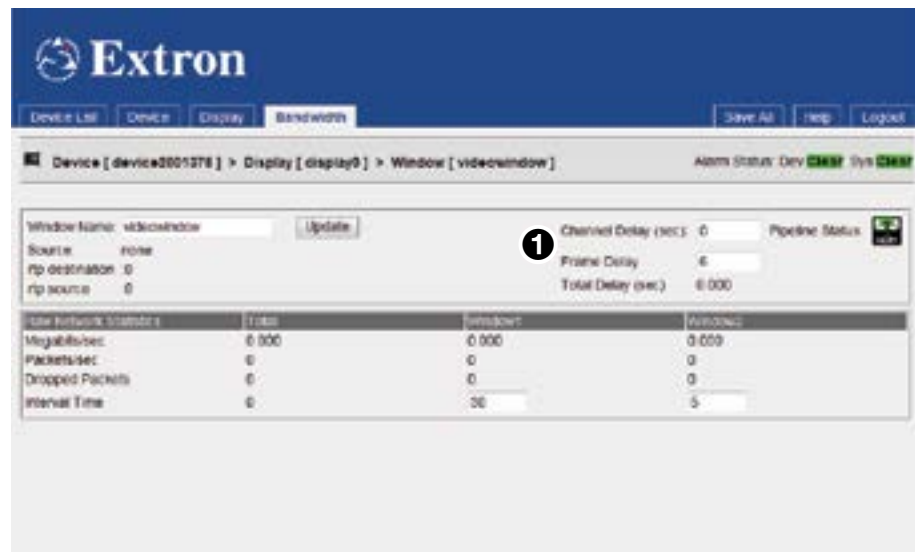

Figure 60. Bandwidth (video) Tab
2. Click the **video** link (②). The **Bandwidth (video)** tab opens (see figure 60):
3. Set the **Channel Delay** and **Frame Delay** (see figure 60, ①). For more information about the **Bandwidth (video)** tab, see Decoder video bandwidth tab on page 62.